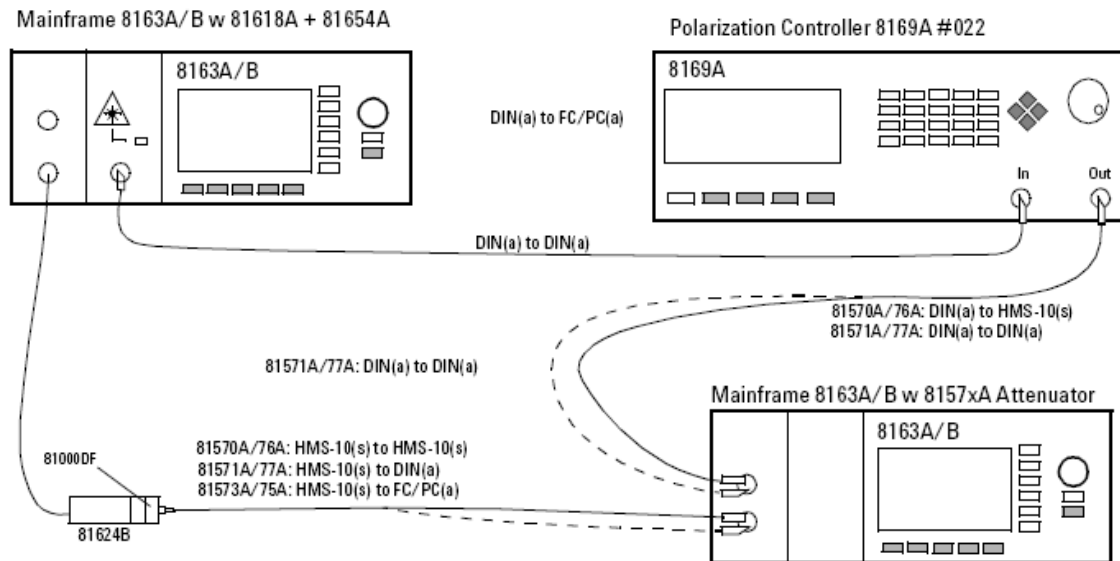

Figure 15 PDL Test Setup - Mueller method
- 25** Connect the equipment as shown in Figure 15